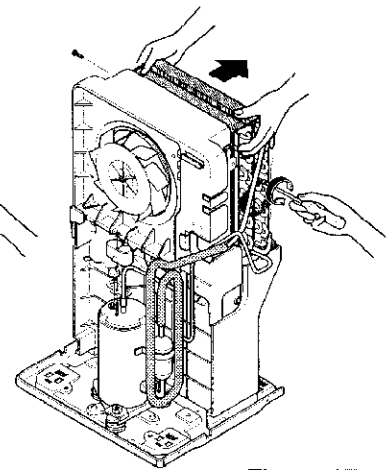

Figure 17
6. Remove the condenser from the shroud. (See Figure 17.)